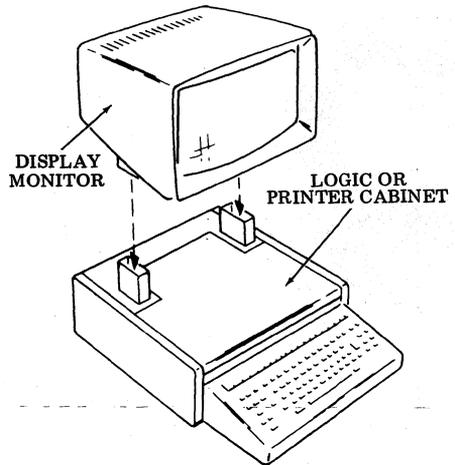

Fig. 2—Typical Display Monitor Arrangement
1.04 To make the electrical adjustments, the monitor should be operated as part of a full edit DATASPEED 40 KD Set, or equivalent (Fig. 2).